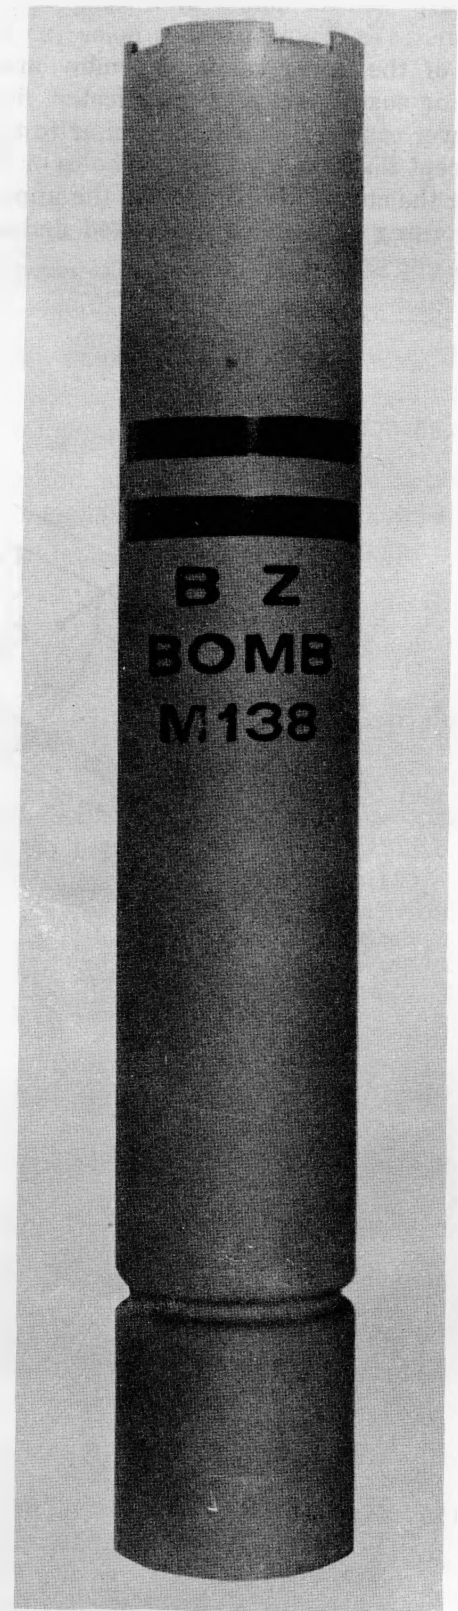

Figure 4. M138 10-lb. incapacitating BZ bomb.
- (1) M138 10-lb. incapacitating BZ bomb. The M138 10-lb. incapacitating BZ bomb (fig. 4) is a thermal generation munition consisting of four canisters nested in a tubular steel bomb casing, which has been crimped to hold the